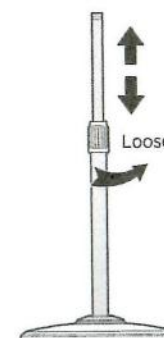

Fig.3
- 3 From the extension pole loosen the height adjustment ring and adjust the internal pole to the desired height. (Note: If you can't find the internal pole, it slides inside the extension pole. You can pull it out from the extension pole.) (Fig.3)